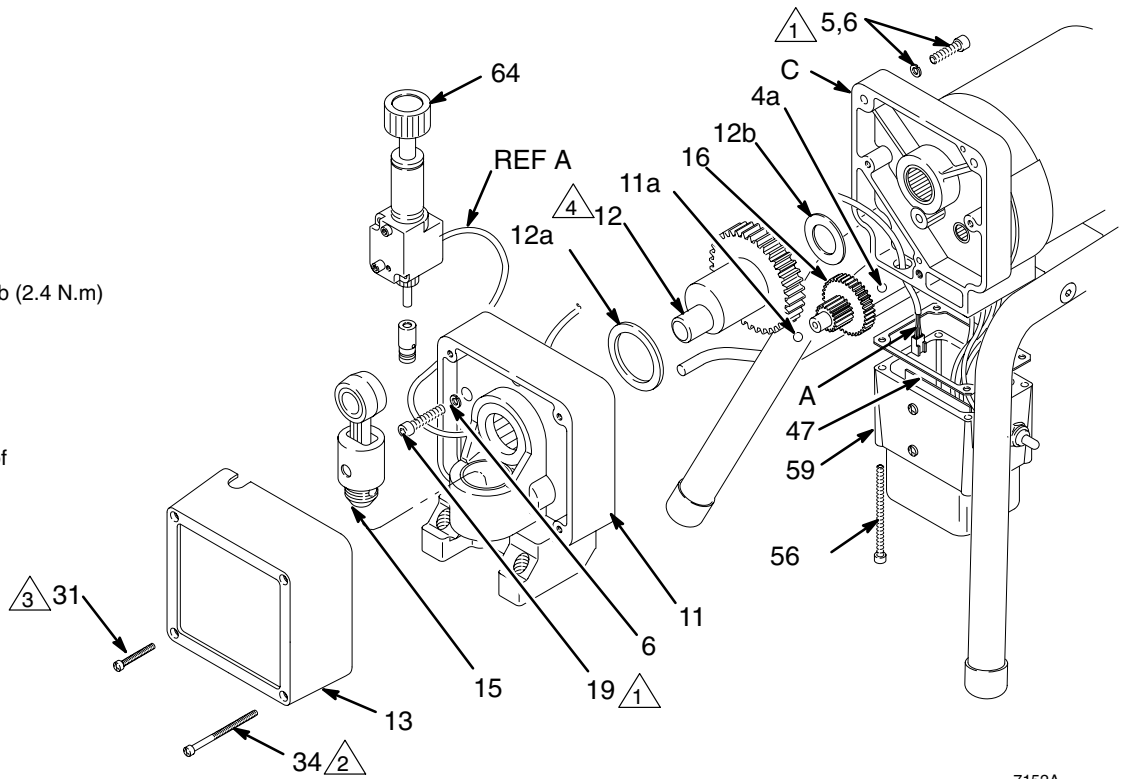

Fig. 25
3. Remove the pressure control (64). See page 27.
4. Turn the displacement pump rod (107) so the pin hole aligns with the bottom drive housing screw (19). See Fig. 24. Remove the three drive housing screws and lockwashers (19,6). Also see Fig. 25 on page 26.
5. Remove the two motor screws (5) and lock washers (6). See Fig. 25 on page 26.
6. Tap the lower rear of the drive housing (11) with a plastic mallet to loosen the motor. Pull the drive housing straight off the motor.